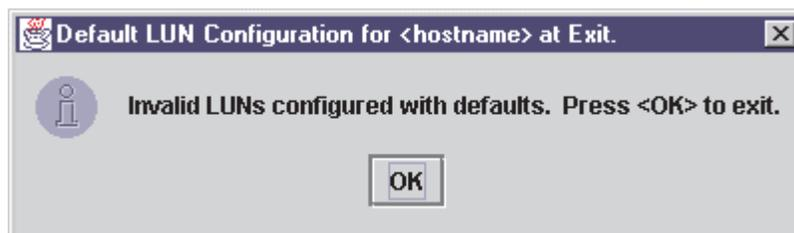

Figure 44. Default LUN Configuration for <hostname> at Exit window
- Click **Yes** if you want the software to configure the invalid LUNs with the default paths. The following confirmation message is displayed (see Figure 44). Click **OK**.